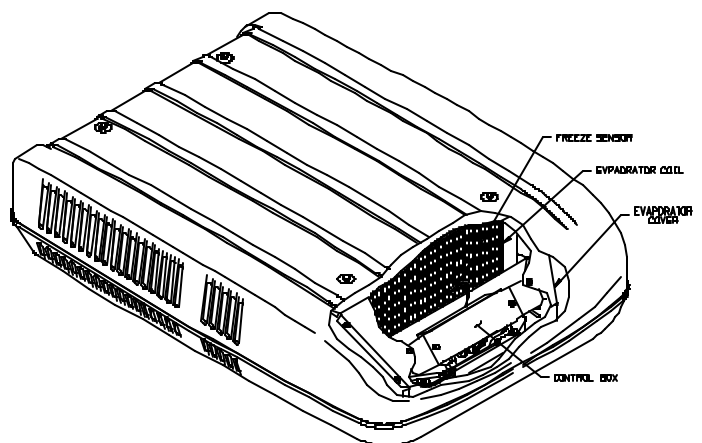

FIGURE 1
7. Locate the two threaded studs in the evaporator cover. Assemble the control box over the threaded studs and secure using the two wing nuts provided with the control box. See Figure 1.
has been made, elevate the exposed end of the sensor approximately 45 degrees, then continue insertion at a 45 degree angle until the sensor is completely embedded into the evaporator. See Figure 1.
9. Locate the two threaded studs in the evaporator cover. Assemble the control box over the threaded studs and secure using the two wing nuts provided with the control box. See Figure 1.
10. Insert the evaporator freeze sensor between evaporator fins near the bottom center of the evaporator and between the bottom two tubes. Insert straight in until contacting the staggered tube directly in back of the insertion point. When contact has been made, elevate the exposed end of the sensor approximately 45 degree, then continue insertion at a 45 degree angle until the sensor is completely embedded into the evaporator. See Figure 1.